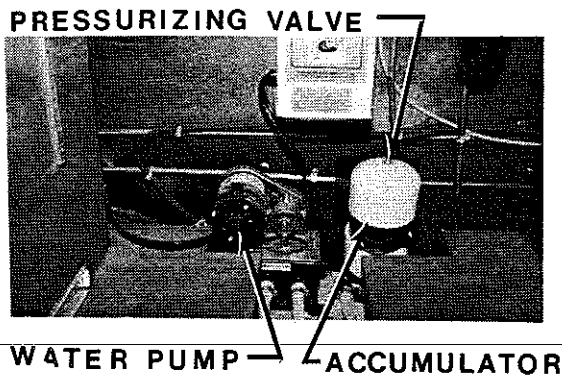

Figure 5-3. Water Pump Location
The air accumulator and water pump are located below the kitchen counter as shown in figure 5-3. The water purifier is behind location for optional ice-maker, and water tank drain valve is located under the bed.
The water pump, figure 5-3, is equipped with a factory-calibrated pressure control switch which is preset to turn the pump on when the system pressure falls below 20 psi; and turn the pump off when the pressure reaches 35 psi. If the pump has been out of service for a period of time, it is advisable to open a faucet before turning the pump on. When water flows steadily from the opened faucet, close faucet and observe that pump shuts off when system becomes pressurized. (it may also be necessary to bleed the air from the other faucets as well.) When the potable water supply tank(s) level is low, or empty, shut the pump off to prevent possible damage to the pump motor. In addition to integral motor overload protection, the pump mechanism is also protected from jamming by the presence of an inline filter (pump guard) between the pump and the supply tank.
7. Set **Water Purge Air Pressure** switch, figure 5-2, to **On** to activate the solenoid which applies air pressure to the input water line to purge the water system. Note that it may be necessary to start the engine to build up air pressure. An air hose must be connected momentarily to the valve fitting on top of the accumulator, figure 5-3, to be sure that no water remains.